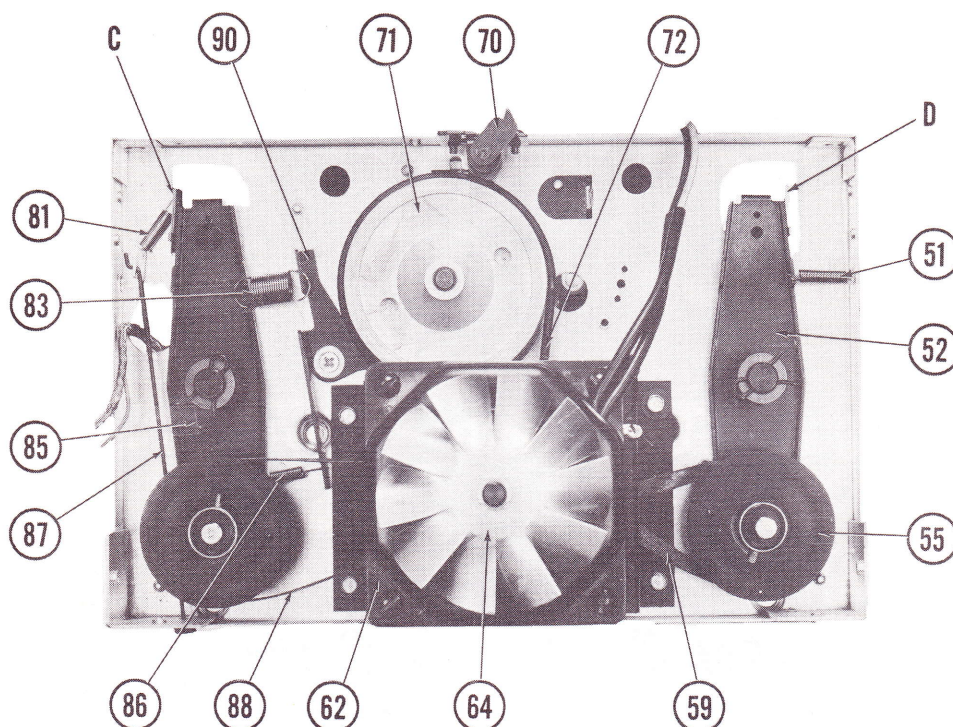

Figure 2
Stops, labeled "C" and "D" on figure 2, located on base plate (22) controls the above action. They regulate the amount of return that take-up arm (85) or rewind arm (52) makes after controls have been released; not sufficient return would cause continued Fast Rewind or Fast Forward operation, while too much return would not allow drive belts (88) or (59) to put a drag on the respective pulleys. Bend these stops carefully so as to obtain operation described above. Stop "C" controls the take-up side while stop "D" controls the rewind side.